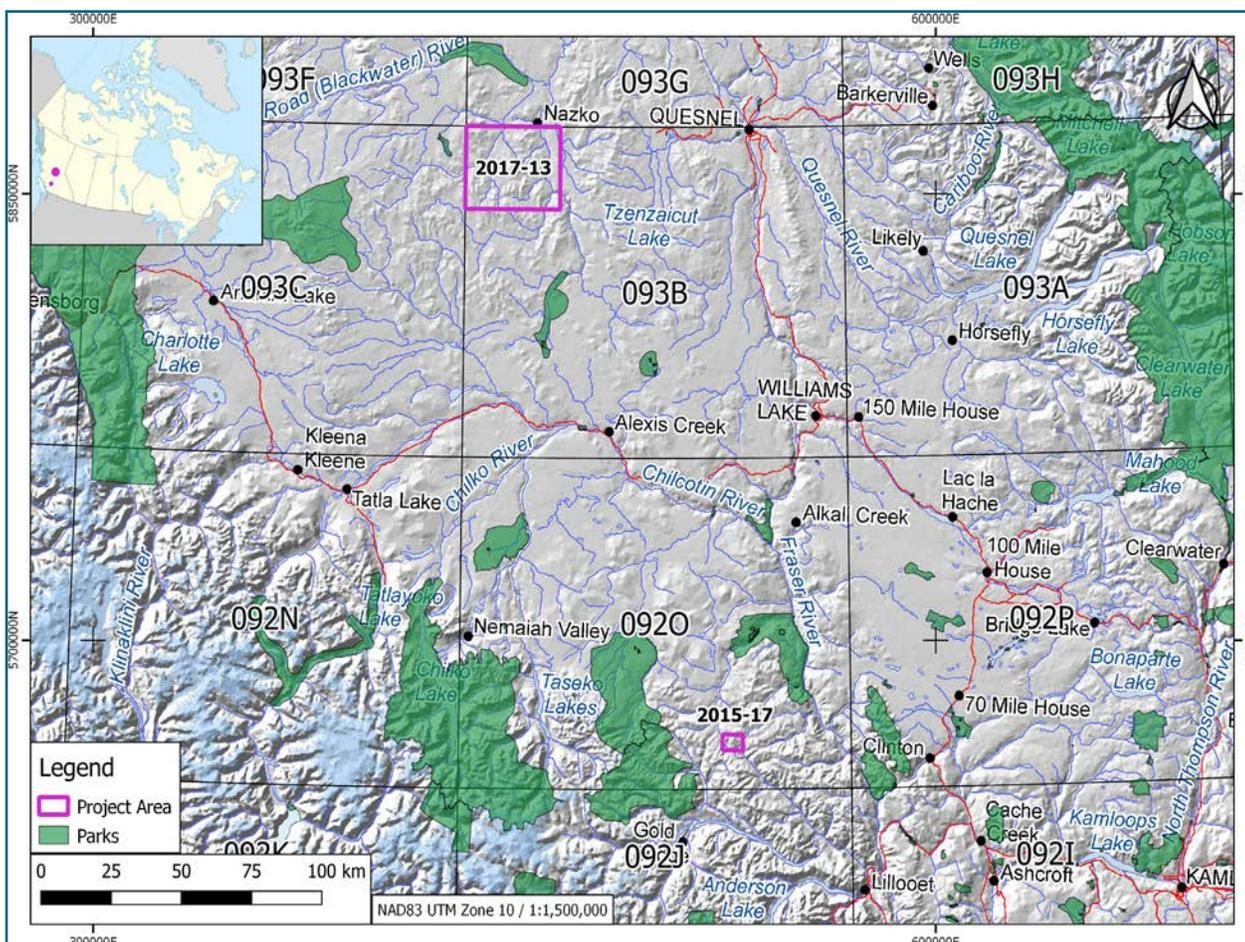

Figure 1. The location of two rapid hydrogeochemistry projects in British Columbia, Canada.
Taufen (1997) and Leybourne & Cameron (2010) previously demonstrated the value of hydrogeochemistry as a mineral exploration technique. Encouraged by these examples, two Geoscience BC funded field studies were carried out in 2014 and 2016 to test the practicality and capability of photometers and voltammeters for detecting hydrogeochemical anomalies associated with mineral occurrences in the central and southern interior of British Columbia (BC), Canada. Results of these studies are reported in Yehia & Heberlein (2015), and Yehia *et al.* (2017), and are summarized in this article. In 2014, water samples were collected in August and October from streams and springs draining a porphyry Cu-Mo deposit exposed on the eastern flank of Poison Mountain. In June 2016, a regional-scale hydrogeochemical survey covering 900 km² was carried out in the glaciated and mostly till-covered area near Nazko in central BC (Fig. 1). Sampling was repeated in August and October of the same year to study seasonal variations. The Nazko survey area includes two known Cu-Au mineral occurrences: Fishpot and Bob (BC Mineral Inventory – MINFILE # – 093B 066 and 093B 054).